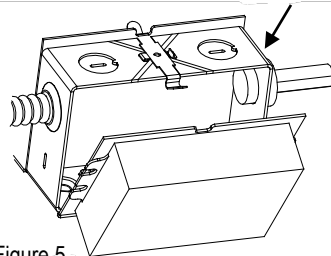

Figure 5
6. Remove knockouts on junction box to feed power supply to fixture as shown in Figure 5. Supply wire must meet applicable electrical codes and be rated for a minimum of 90°C. Junction box is thru-wire rated for 8-No. 12 AWG conductors (4in-4out).
7. Complete necessary splices. Snap the door/driver assembly onto the junction box as shown in Figure 5.
5. Remove knockouts on junction box to feed power supply to fixture as shown in Figure 5. Supply wire must meet applicable electrical codes and be rated for a minimum of 90°C. Junction box is thru-wire rated for 8-No. 12 AWG conductors (4in-4out).
6. Complete necessary splices. Snap the door/driver assembly onto the junction box as shown in Figure 5.